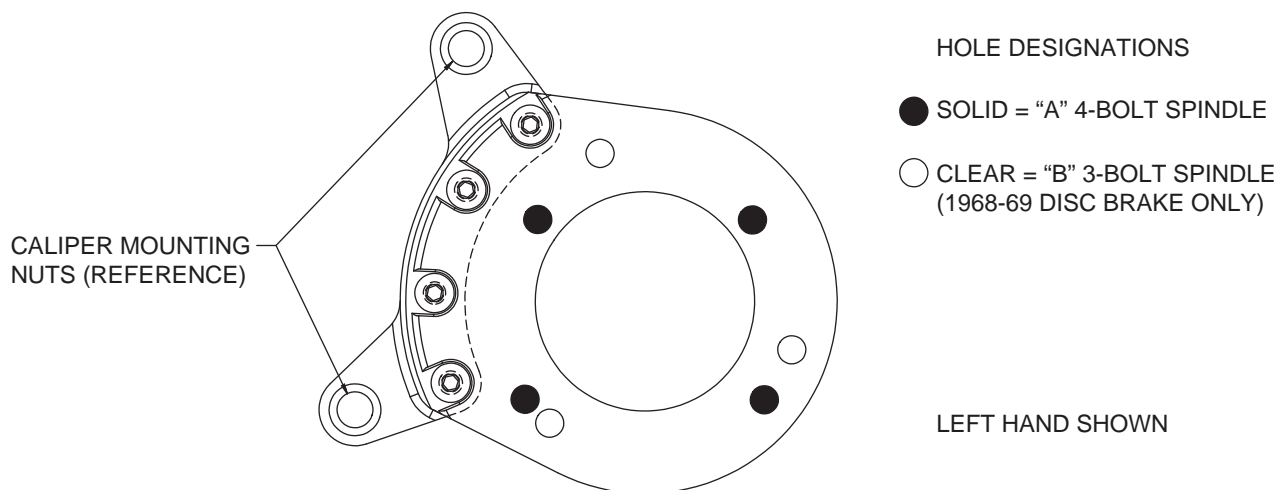
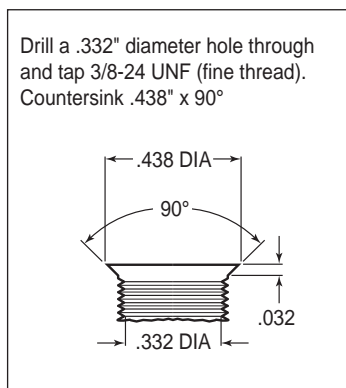
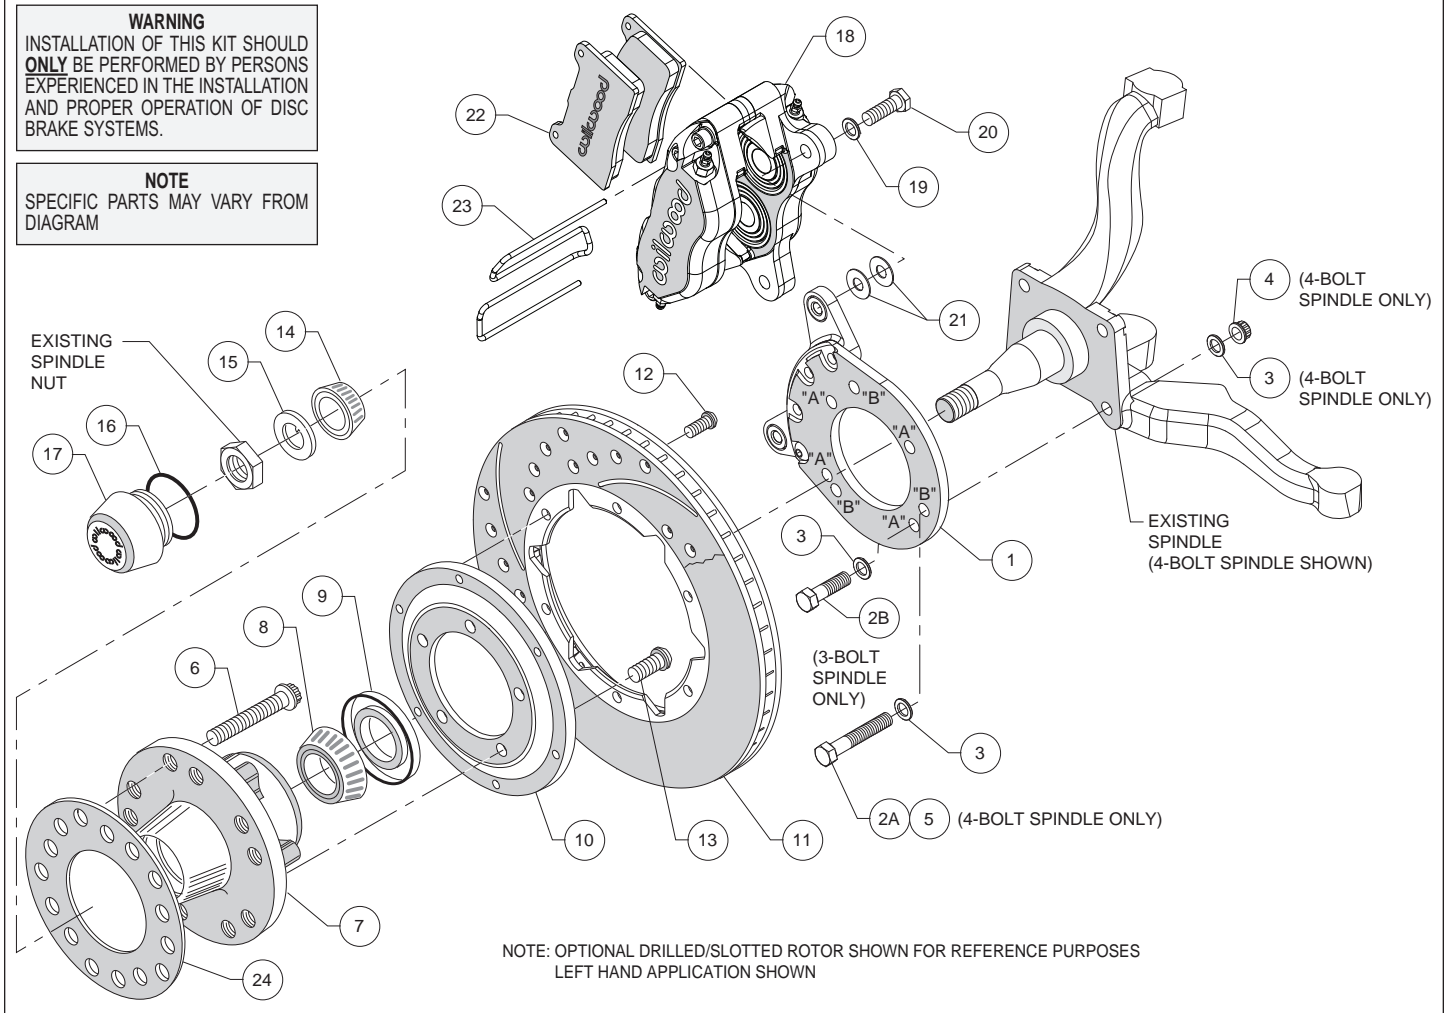
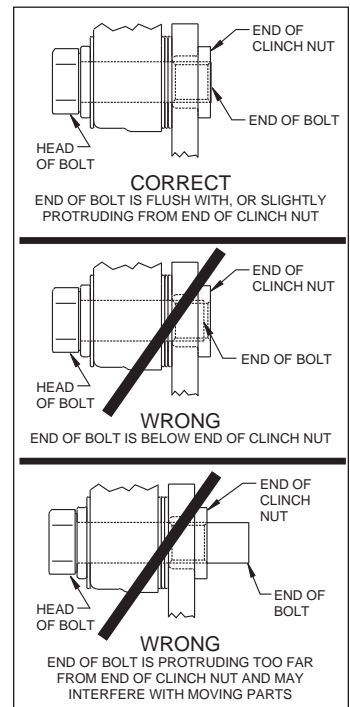

Figure 1. Wilwood Caliper Mounting Bracket
Figure 2. Drill and Tap Detail
Figure 4. Typical Installation Configuration
Figure 5. Clinch Nut Engagement Diagram
This kit has been designed for use with both three and four bolt spindle configurations. The only difference is in how the Wilwood caliper mounting bracket is installed. The same bracket is used for both configurations; only the 1968-69 disc brake spindle utilizes three mounting holes while all other spindles use the four mounting holes (see Figure 1). For your convenience we have supplied bolt kits for both applications (see parts list and Figure 4 as necessary). Use the bolt kit that is applicable to your vehicle and disregard the other one.
NOTE: This modification should be performed by a qualified machinist and completed before assembly of the Wilwood disc brake kit begins. Using the caliper mounting bracket as a template (refer to Figure 1 as necessary), locate and verify the three original holes on the spindle that need to be modified. Drill a .332" diameter hole through all three holes, then tap 3/8-24 UNF (fine thread). Countersink the holes to .438" diameter x 90°, as shown in Figure 2.
Assembly Instructions (numbers in parenthesis refer to the parts list, and Figure 4 on the preceding pages): **CAUTION:** All mounting bolts must fully engage clinch nuts. Be sure to check that all bolts are either flush or protruding through flanged side of clinch nut after shimming, Figure 5.
•**NOTE:** This kit uses the same mounting bracket (1) for both the three and four bolt brake spindles. The 4-bolt version, Photo 1, uses four mounting bolts (designated "A"), while the 3-bolt version, Photo 2, uses three (designated "B"). Refer to Figures 1 and 4 for the basic installation position of the bracket and the "A" and "B" reference designations (not physically marked on the brackets).
For 4-Bolt Spindle: Align bracket, using the four "A" holes, to the face of the spindle and attach using bolts (2A and 5), washers (3), and lock nuts (4), as shown in Figure 4. Ensure that the flanged heads of the clinch nuts in the bracket are facing outboard, Photo 1. Torque lock nuts to 30 ft-lb.
For 3-Bolt Spindle (1968-69 Disc Brake): Align bracket, using the three "B" holes, to the face of the spindle and attach using bolts (2B) and washers (3), as shown in Figure 4. Finger tighten. Ensure that the flanged heads of the clinch nuts in the bracket are facing outboard, Photo 2. Remove bolts one at a time, apply red *Loctite*® 271 to threads, and torque to 40 ft-lb.
- Install wheel studs (6) into the hub (7), Photo 3. Torque to 77 ft-lb. **NOTE:** There are two five lug patterns in the hub (5 x 4.50 and 5 x 4.75). Ensure the correct hub stud pattern is being used to fit the wheel application.
- Pack the large inner bearing cone (8) with high temperature disc brake bearing grease (available from your local auto parts store) and install into the backside of the hub (7), Photo 4.
- Install the grease seal (9) by pressing into the backside of the hub (7), flush with the end of the hub, Photo 4.
- Orient the rotor (11) and the rotor adapter (10) as shown in Figure 4 and Photo 5. Attach the rotor to the adapter using bolts (12). Using an alternating sequence, apply red *Loctite*® 271 to the threads, and torque to 25 ft-lb.
- Mount the adapter/rotor assembly (10/11) to the hub (7) using bolts (13), as shown in Figure 4 and Photo 6. Using an alternating sequence, apply red *Loctite*® 271 to the threads, and torque to 45 ft-lb.
- Pack the small outer bearing cone (14) with high temperature disc brake bearing grease and install into hub (7). Slide the hub/rotor assembly onto the spindle. Secure using spindle washer (15) and OEM spindle nut, Photo 7. Adjust bearings per OEM specifications. Install saved OEM nut lock (if any) and a new cotter pin (not included).
- Screw dust cap (17) into hub (7), Photo 8. Friction created by the o-ring (16) on the dust cap keeps it from unscrewing. **NOTE:** The O.D. of the existing OEM spindle washer may be larger than the I.D. of the dust cap not allowing it to seat against the hub face. Therefore, use the spindle washer (15) supplied with the kit instead of the OEM washer.
- NOTE:** Please reference the caution statement at the beginning of the assembly instructions. Mount the caliper (18) onto the caliper mounting bracket (1) using bolts (20) and washers (19), as shown in Figure 4. Initially place two .035" thick shims (21) on each bolt between the caliper and the bracket, Photo 9. Temporarily tighten the mounting bolts and view the rotor (11) through the top opening of the caliper. The rotor should be centered in the caliper, Photo 10. If not, adjust by adding or subtracting shims between the bracket and the caliper. Always use the same amount of shims on each of the two mounting bolts. **NOTE:** The end of each bolt must be flush with or slightly protruding from the head of the clinch nut, as shown in Figure 5. If necessary place spare shims between washer (19) and caliper